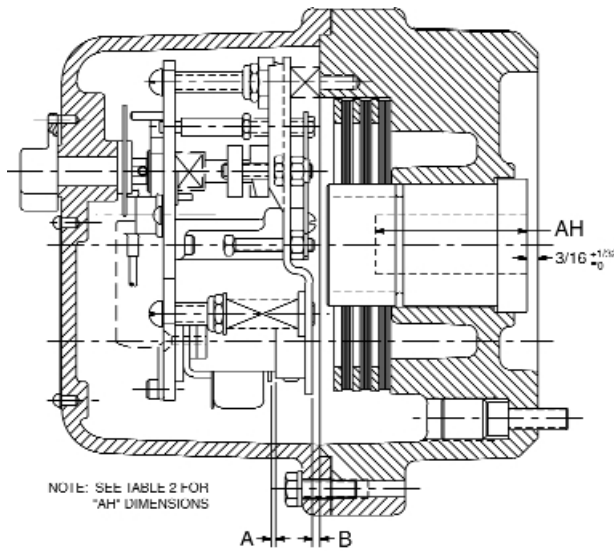

Figure 5. 60 Series H.L. Brake
1. Remove hub (6) from brake and mount hub with key (not supplied by Dings) on motor shaft per dimension shown in Figure 5. Be sure that hub used is item supplied by Dings for hazardous location applications. Tighten both set screws to 8-10 lb. ft. torque.
2. Cast Iron Enclosure: Remove four cover bolts (42A) and lockwashers (43) and remove cover (38A).
WEAR ADJUSTMENT (See Figures 5 & 7)
MAGNET ASSEMBLY REPLACEMENT (See Figures 5 & 7)